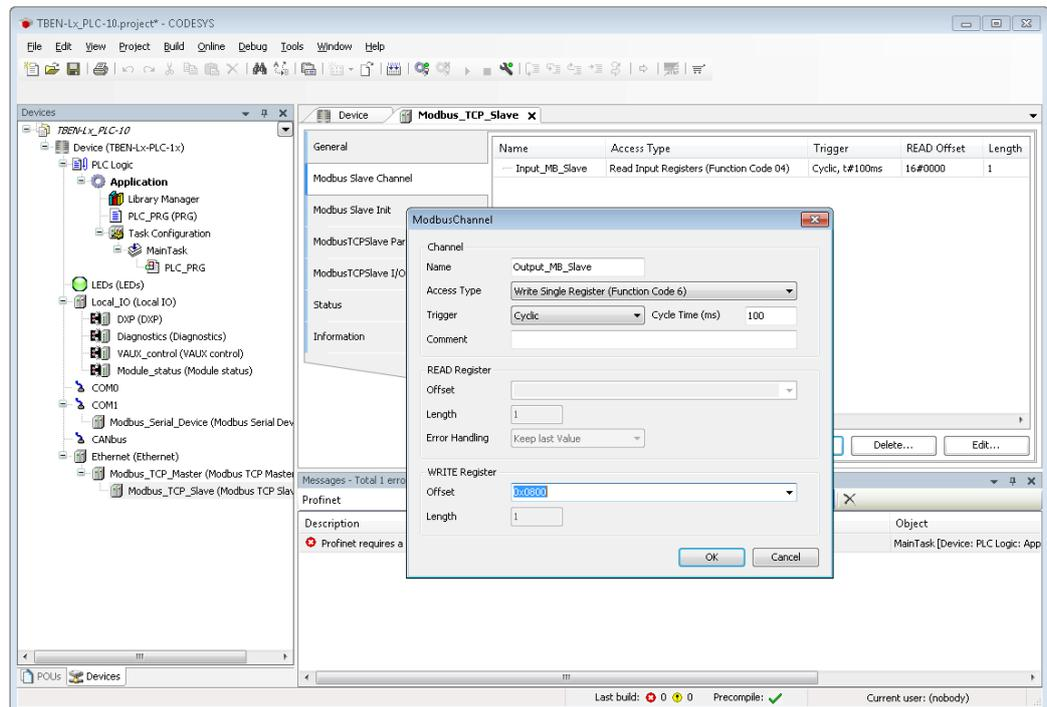

Fig. 47: Adding Modbus Slave channels
- Observe the process data offsets of the slave. In the example (Fig. 47: Adding Modbus Slave channels) the slave's process output data start with register 0x0800.